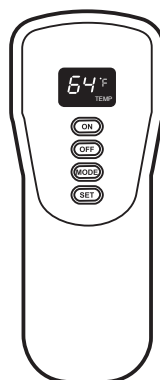

Figure 24 - Remote Control
1. Place the slide switch on the receiver in the remote position (see Figure 24).
The factory setting for temperature is °F. To change this setting to °C, press the ON key and the OFF key on the remote control at the same time (see Figure 24, page 20). This will change from °F to °C. Follow this same procedure to change from °C back to °F.